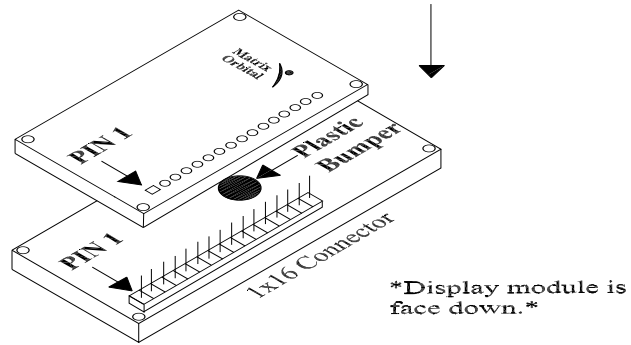
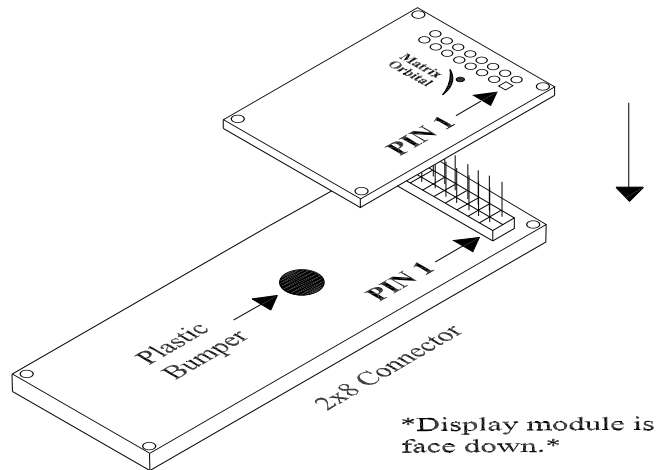

Figure 2: 1x16 Connector
Figure 3: 2x8 Connector
2. Before soldering the display to the X-Board, place the plastic bumper in a convenient mounting location. It should be mounted in such a way to avoid contact of pins between the X-Board and the display. Please see Figure2 or Figure3 for further description.